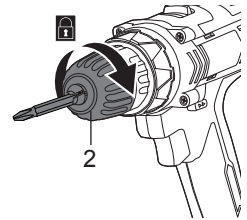

Fig. 3
- > Turn the chuck sleeve (2) clockwise until the drill bit is properly fastened in the chuck jaws (Fig. 3).